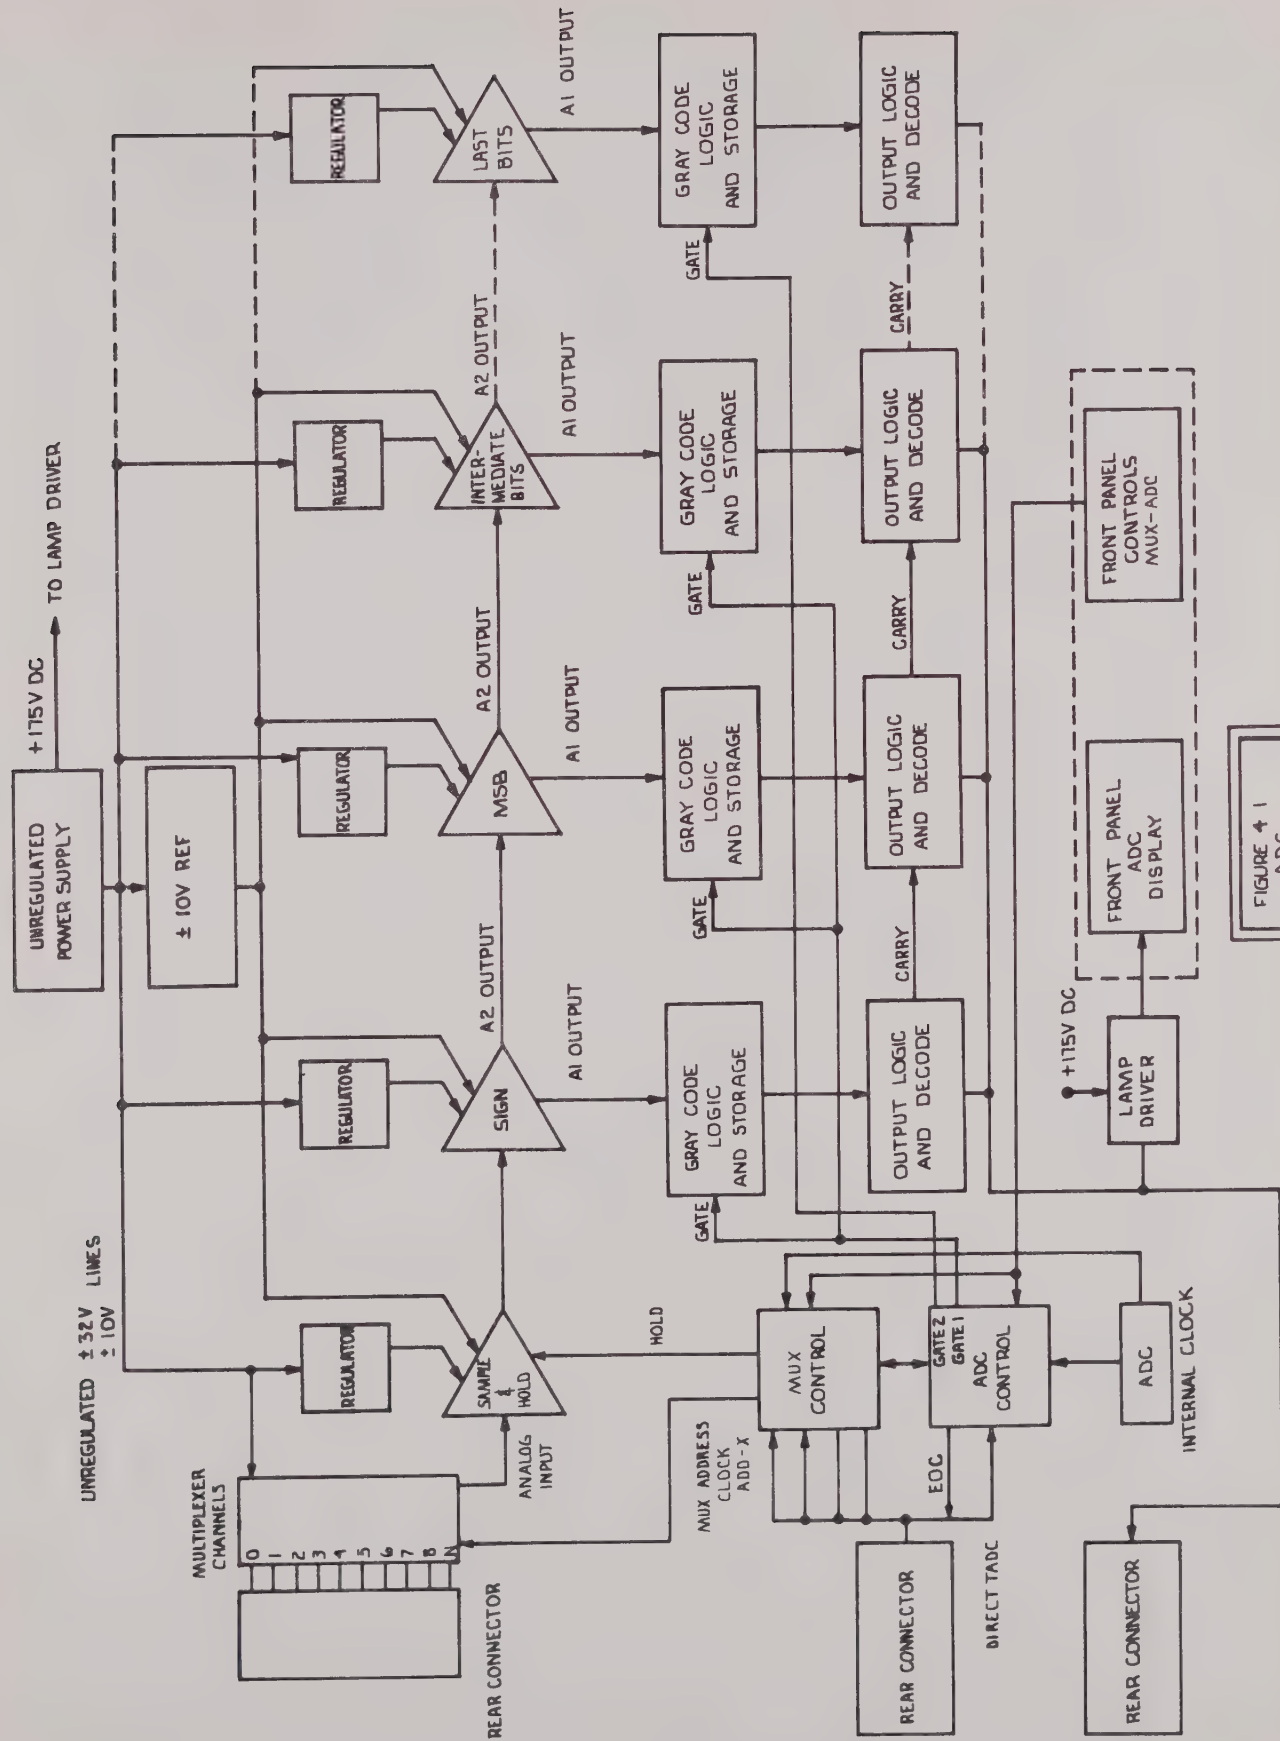

FIGURE 4-1
4.4 THEORY (Figure 4.1, 4.2, 4.3)
The GM series Analog-to-Digital Converter consists of a series of similar bit boards. Each bit board consists of two basic elements. These elements are: (1) an analog circuit for each individual bit and (2) a logic storage and decoding section for each individual bit (refer to Figure 4.1).
In the GM Analog-to-Digital Converter, several of the above described bit boards are connected in series as indicated in Figure 4.1, and each circuit receives, as its input, the output of the preceding circuit.
Using the block diagram in Figure 4.1, note that each bit board, including the sign, has its own analog circuit and logic storage. The buffer is used to provide a high impedance to the source.